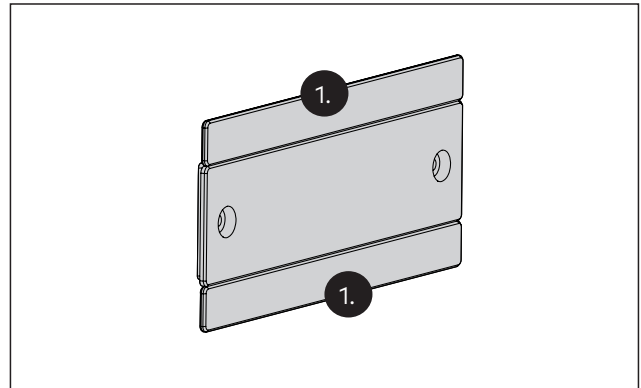

Fig. 30 Snapping off the end cap lugs
1. Snap off lugs on both sides of end cap if installed on wall or glass (Fig. 30).